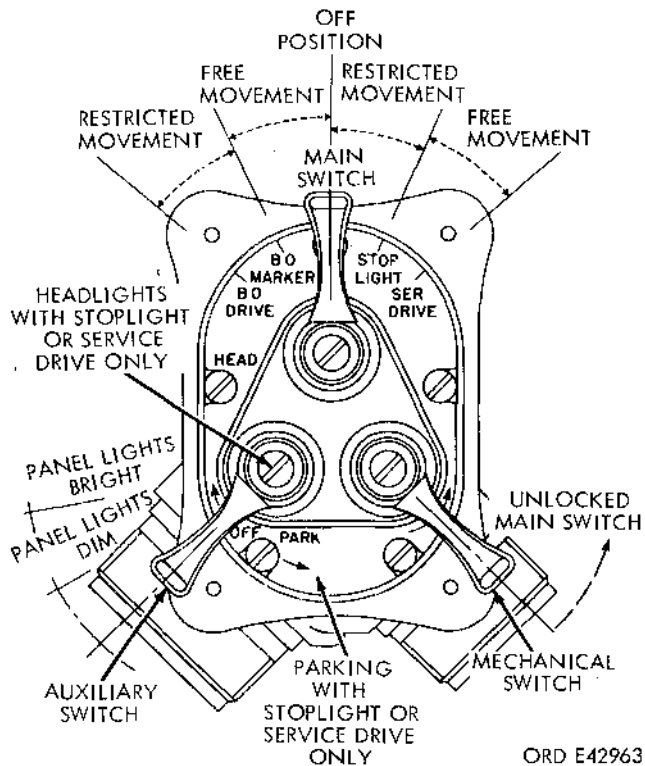

Figure 2-40. Light switch positions.
(1) Place the headlight switch (fig. 2-40) in the desired position for the lights to be checked.